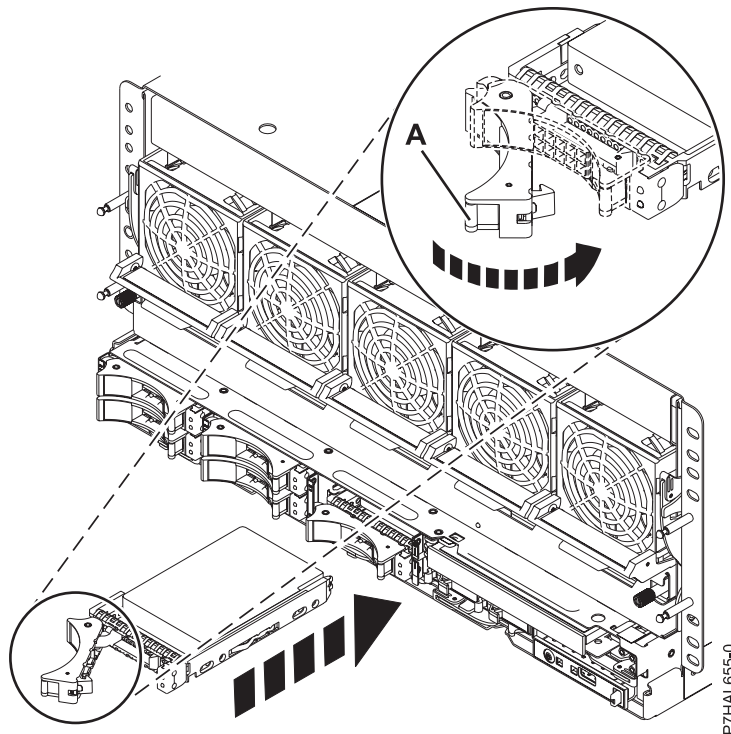

Figure 43. Replacing a disk drive or solid-state drive in the system
6. Slide the disk drive or solid-state drive all the way into the system or an expansion unit, and push the drive handle (A) in until it locks, as shown in Figure 43.